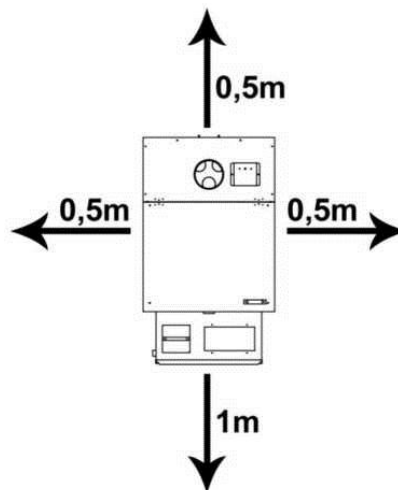

Fig. 2. Minimal safety space around the device
- place the heater on a flat, concrete floor, in the spot allowing free space around the device, according to Fig. 2.